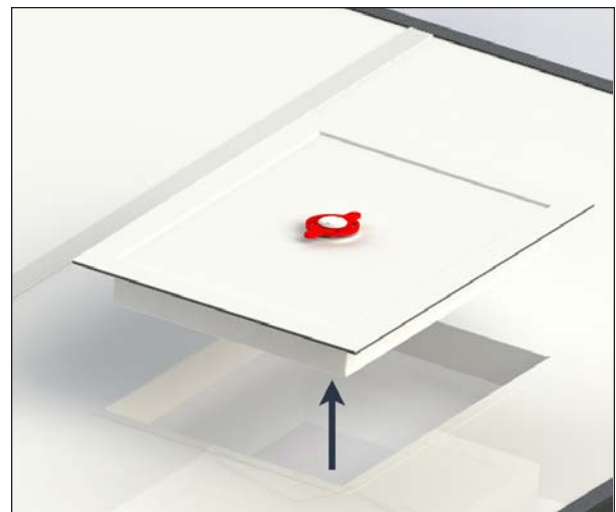

FIGURE 85: REMOVE HATCH
2. Push straight up on the escape hatch and move it to the side, see Figure 85.